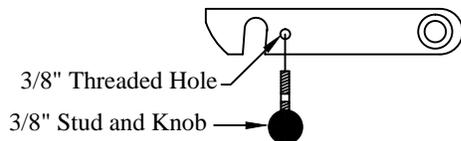

Figure 17: Original Series platform latch knob.
1. **Install** the two (2) knobs on the platform latches (Figure 17).